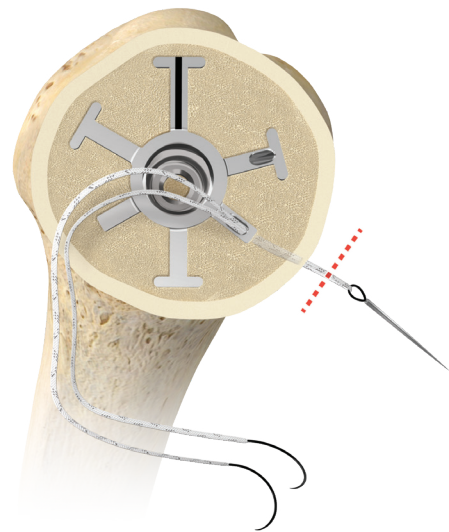

Figure 6
- ⓘ **Note:** Separate sutures into individual strands by cutting the suture loop. (Figure 6)